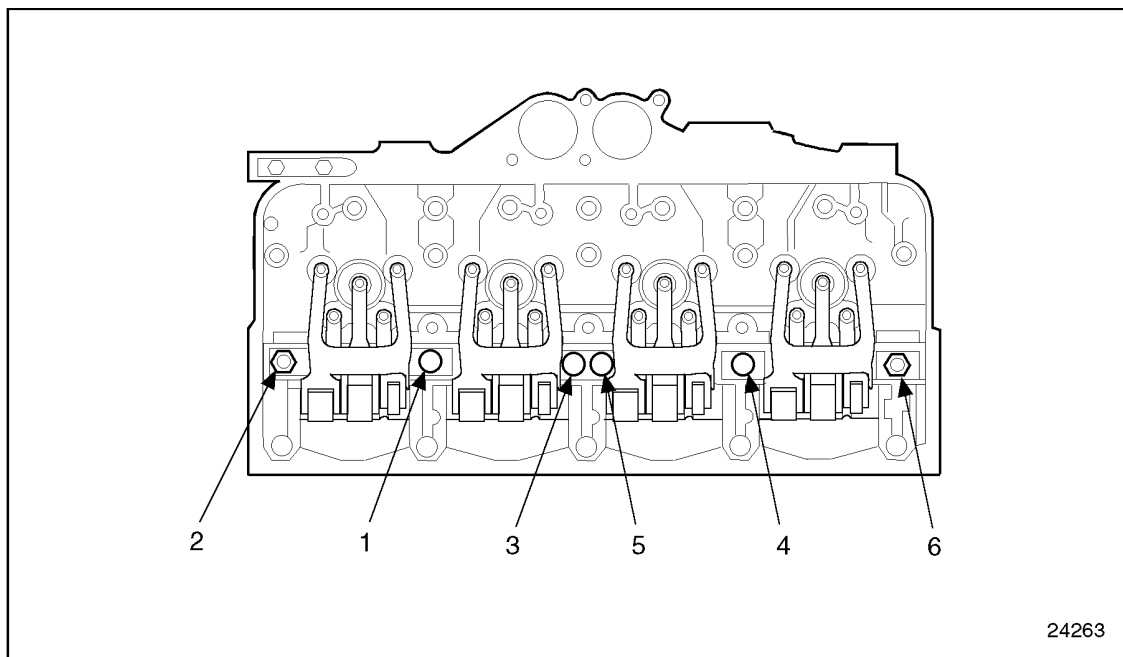

Figure 1-60 **Rocker Arm Shaft Retaining Bolt and Nut Tightening Sequence**
10. Torque the rocker arm shaft retaining bolts and nuts to 101-116 N·m (75-86 lb·ft) using the sequence. See Figure 1-60.